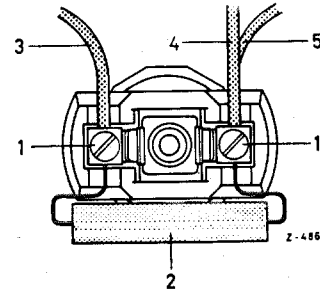

Fig. 54 — 18/2
4. Loosen the two slotted screws (1) and pull the electric cables (3), (4) and (5) together with the dimmer resistance (2) out of the terminals (Fig. 54 — 18/2).